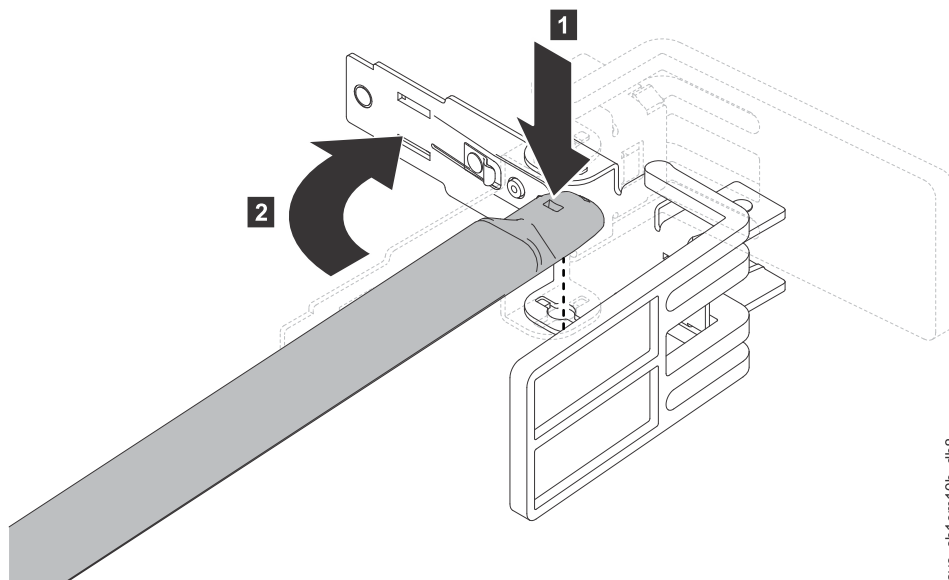

Figure 21. Connecting the cable management support arm to the stop bracket
2. Connect the other end of the support arm to the stop bracket, as shown in Figure 21 on page 27.